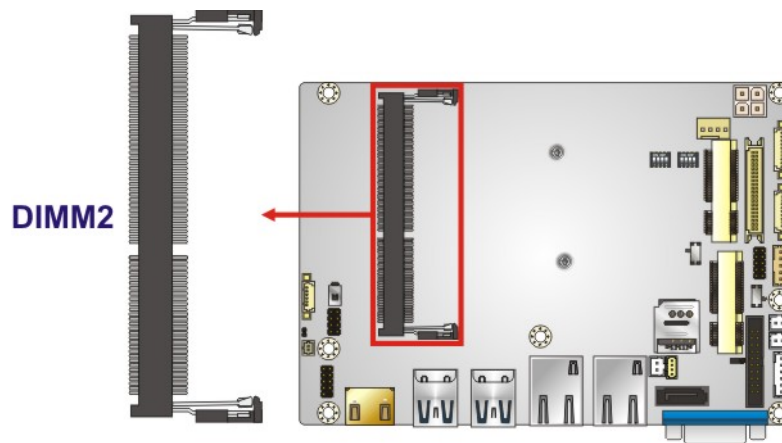

Figure 3-20: SO-DIMM Slot Location
- CN Location:** See **Figure 3-20**